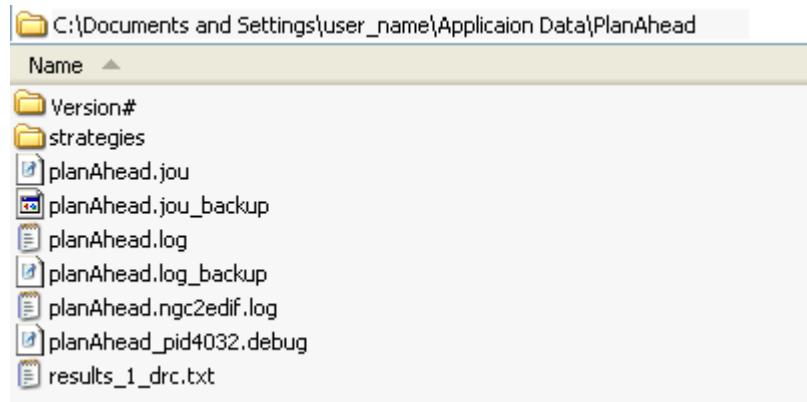

Figure A-1: PlanAhead Directories for Reporting Output
Figure A-1, page 427 shows a the directory structure used for reporting output on a Windows OS. When the file location is not user-specified, the PlanAhead tool places report output files as follows:
- For Windows the location, as shown in Figure A-1, would be: